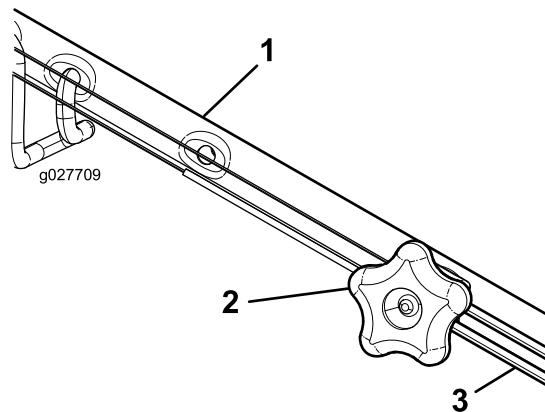

Figure 43
1. Turn the adjustment knob counterclockwise to loosen the cable adjustment (Figure 43).
2. Adjust the tension on the cable (Figure 43) by pulling it back or pushing it forward and holding that position.